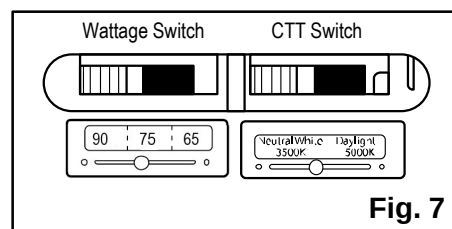

Fig. 7
5. On the side of the fixture, use the **Wattage switch** to control power and the **CCT switch** to set light temperature. (Fig. 7)